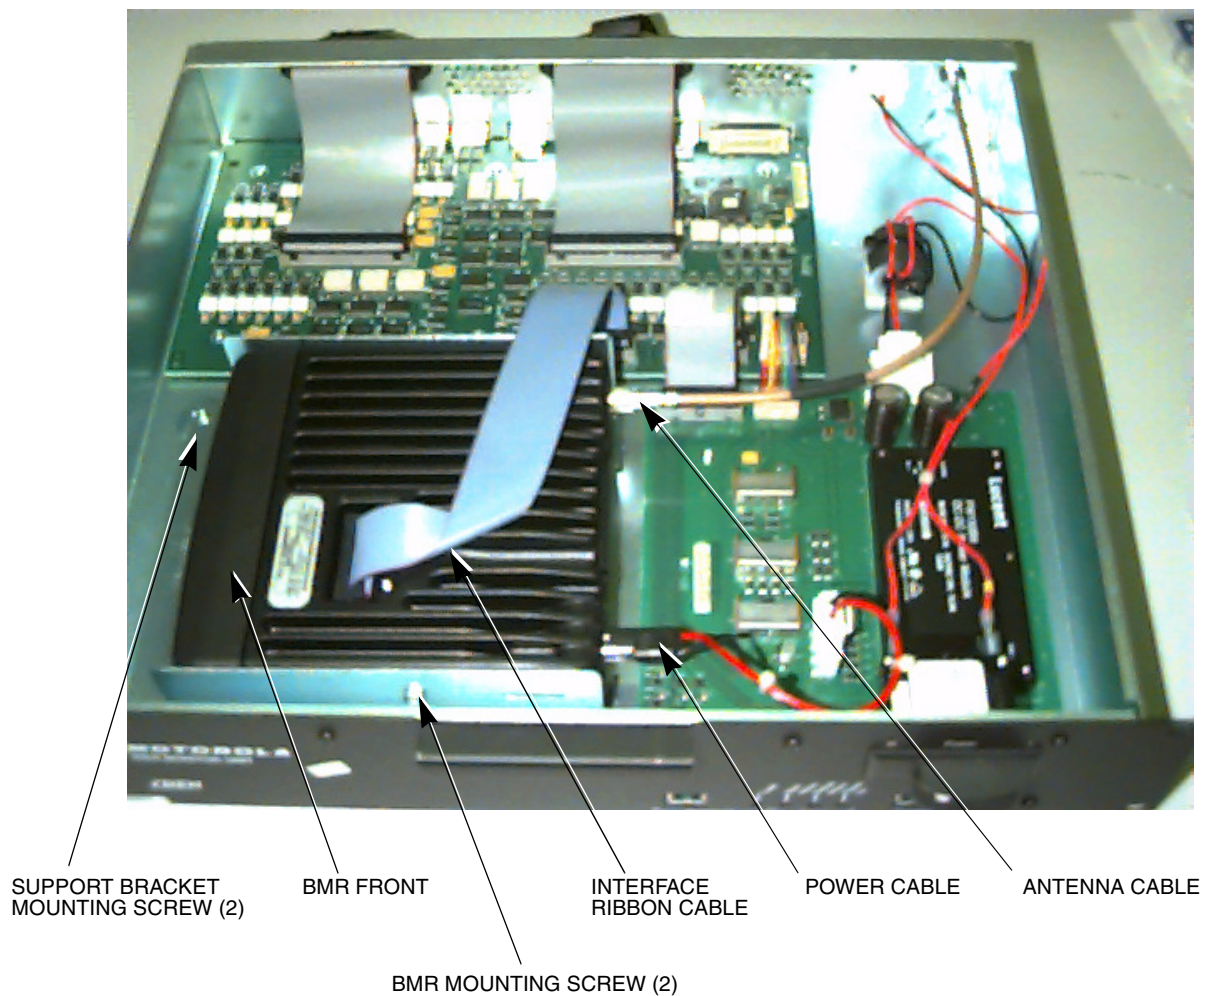

Figure 2 **BMR Removal and Replacement**
7. Using a TX15 TORX driver, remove the two screws that secure the BMR support bracket to the iMU housing (see Figure 2). Save screws for reuse.
8. Using a TX25 TORX driver, remove the two screws that secure the BMR to the BMR support bracket (see Figure 2). Save screws for reuse.
1. On Antenna 1 duplexer antenna port, disconnect antenna cable (refer to Figure 2).